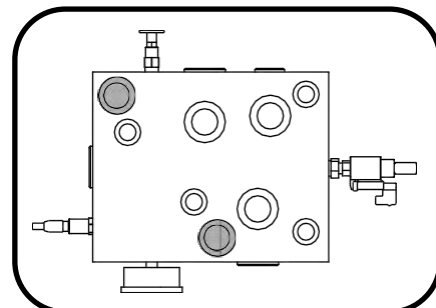

Figure 4.30
- 4) Once your valve stacks are assembled and secured, attach them to the planter using two, 1/2" socket head cap screws of appropriate length. (Fig 4.30)